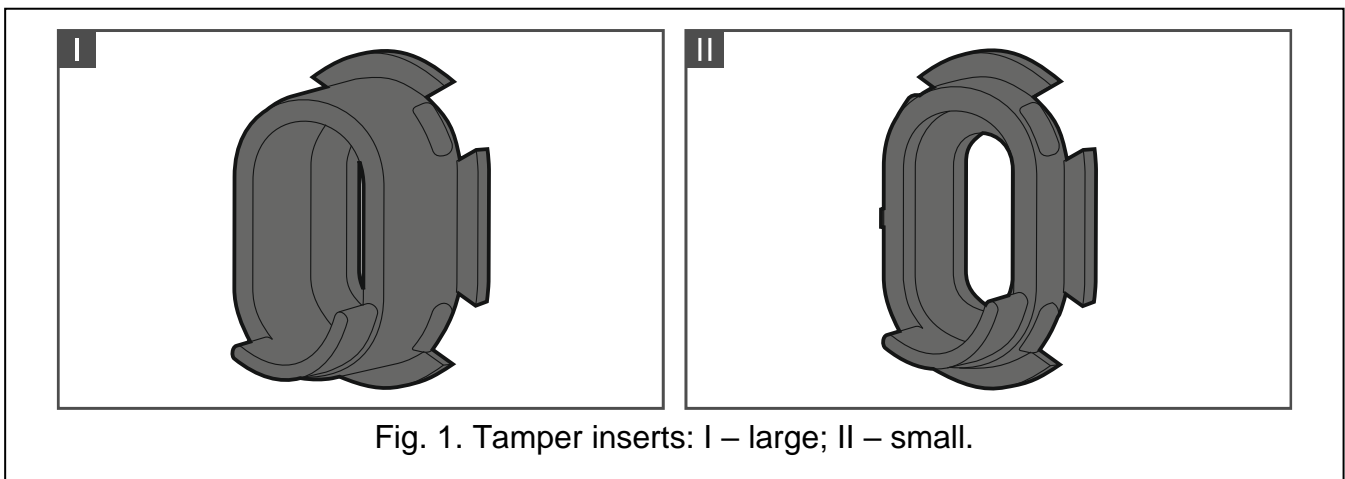
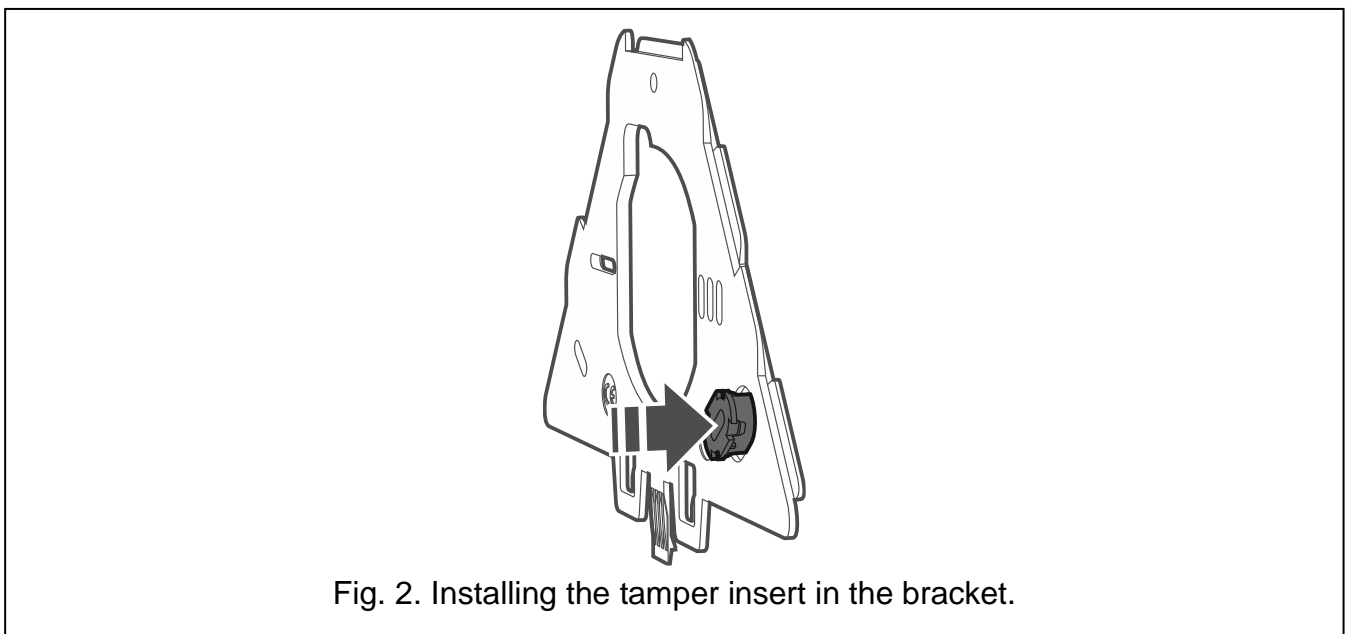

Fig. 1. Tamper inserts: I – large; II – small.
Fig. 2. Installing the tamper insert in the bracket.
- Install the large tamper insert (Fig. 1-I) on the bracket (Fig. 2).
3. Install the small tamper insert (Fig. 1-II) on the bracket (Fig. 2).